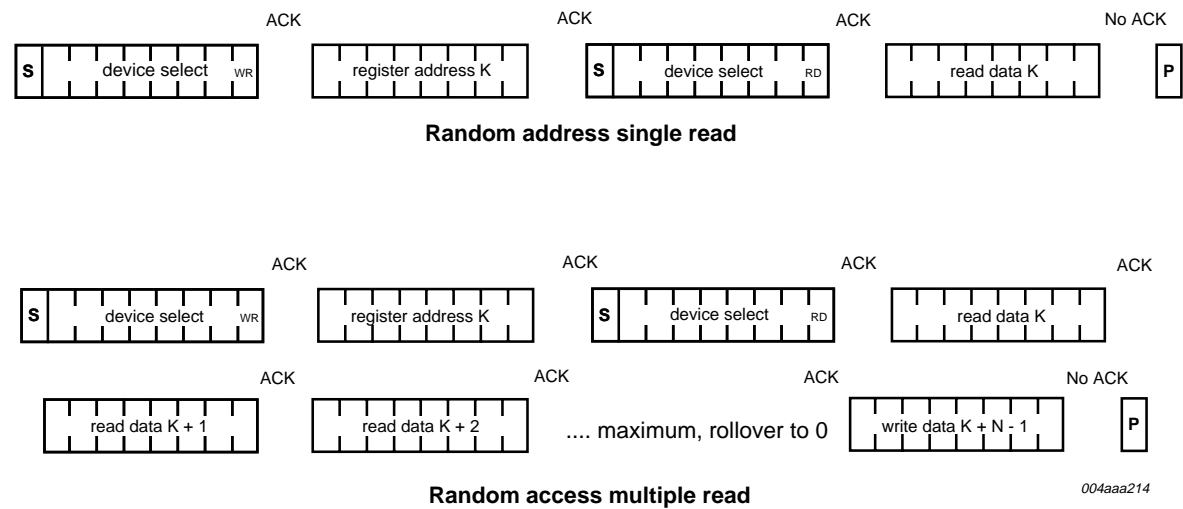

Fig 14. Random address read.
**Single read:** Figure 14 illustrates the byte sequence.
**Multiple read:** Figure 14 illustrates the byte sequence.